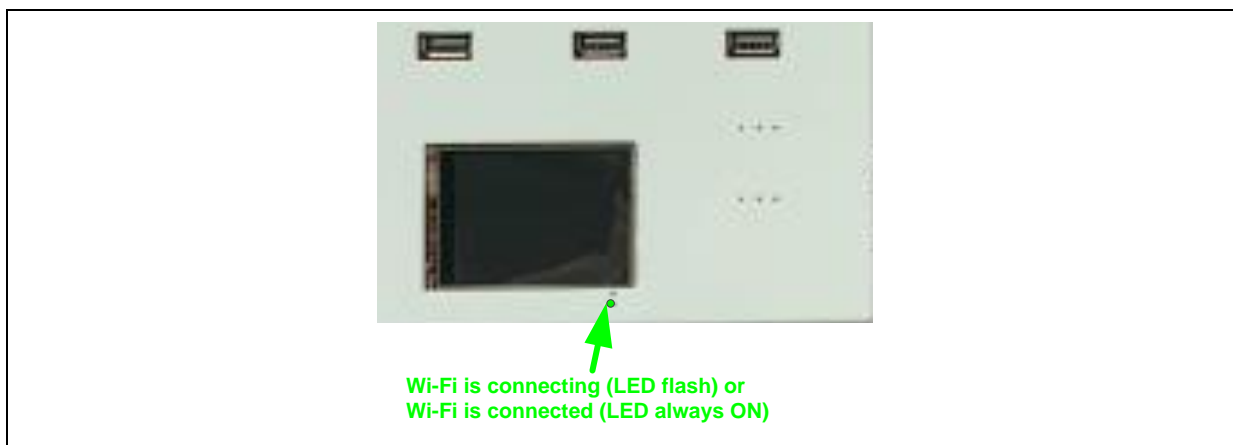

Figure 1-11 Wi-Fi LED on Intelligent Power Station Case
- Check the LED status from flashing (connecting) to always-on (ready) on the Intelligent Power Station case that shown as the following Figure 1-11. When the green Wi-Fi LED is flashing, it means that the Wi-Fi module inside the Intelligent Power Station is trying to connect with the hotspot. When the green Wi-Fi LED is always ON, it means that the Wi-Fi has connected with hotspot and this Intelligent Power Station is ready to receive the speech recognition command from the NuMaker-IoT-M487 board through the Wi-Fi.